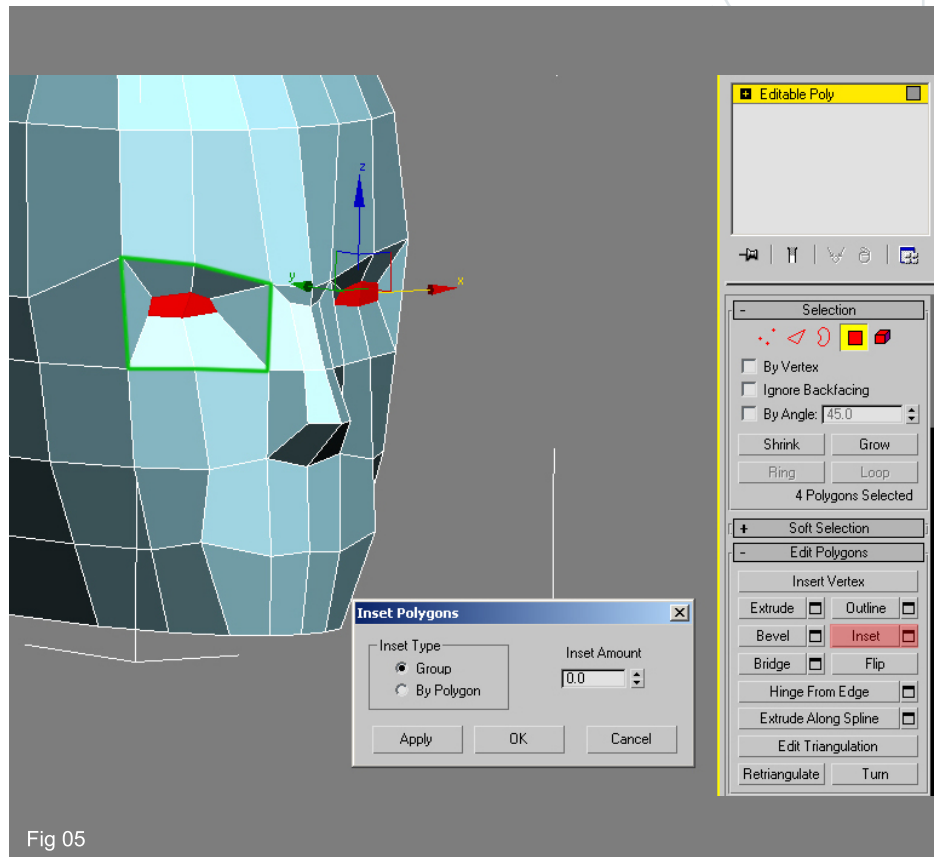

Fig 05
5. The next step is to make a start on the eyes. Select the two poly's that are ringed in green in Fig05 and then click on the little square next to the Inset tab (highlighted in red). Click on the "Group" radio button and then simply alter the inset amount to form the eye shape similar to the image. If you select "By Polygon" each poly will be inset individually – something we wish to avoid.